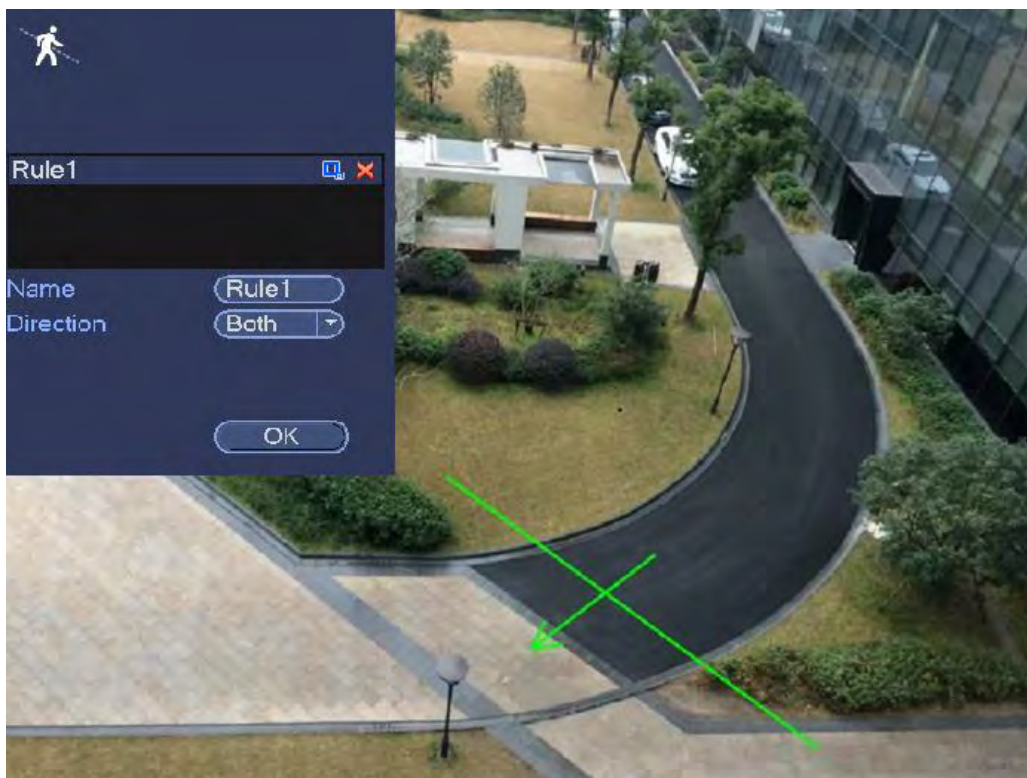

Figure 4-144
1. Click Draw button to draw the tripwire. See Figure 4-144.